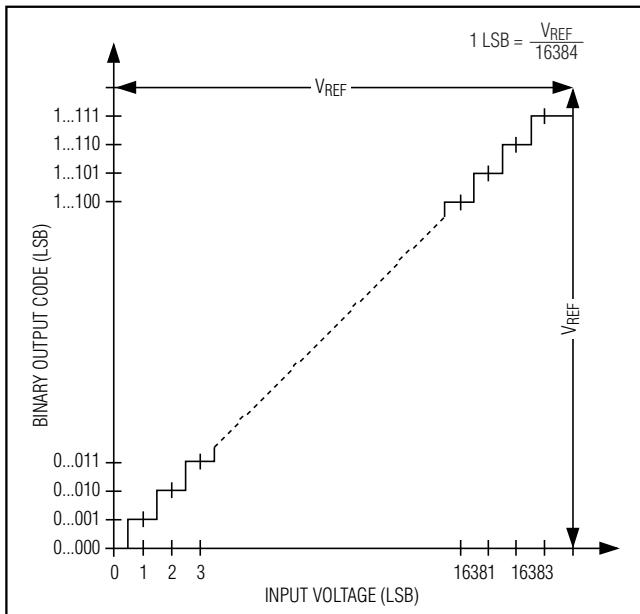
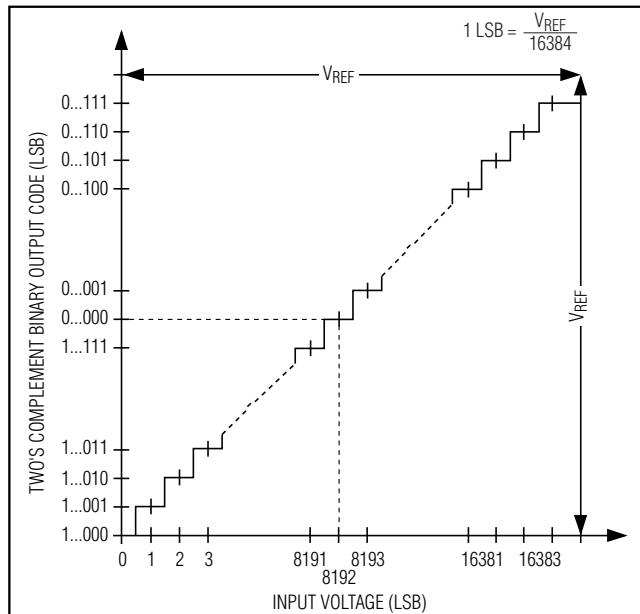

Figure 14. Unipolar Transfer Function
Figure 15. Bipolar Transfer Function
In unipolar input mode, the digital output is straight binary (Figure 14). For bipolar input mode, the digital output is two's complement binary (Figure 15). Data is clocked out on the falling edge of SCLK in MSB-first format.
Output data coding for the MAX1146–MAX1149 is binary in unipolar mode and two's complement binary in bipolar mode with $1 \text{ LSB} = (V_{REF}/2^N)$, where N is the number of bits (14). Code transitions occur halfway between successive-integer LSB values. Figure 14 and Figure 15 show the input/output (I/O) transfer functions for unipolar and bipolar operations, respectively.